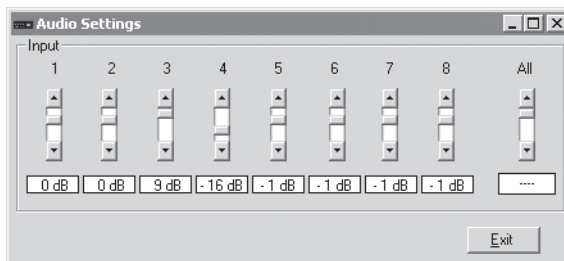

Figure 5-5 — Control program Audio Settings window
- If desired, on the task bar, click *Tools > Audio Settings* to set each input's audio level or attenuation in the Audio Settings window (figure 5-5).